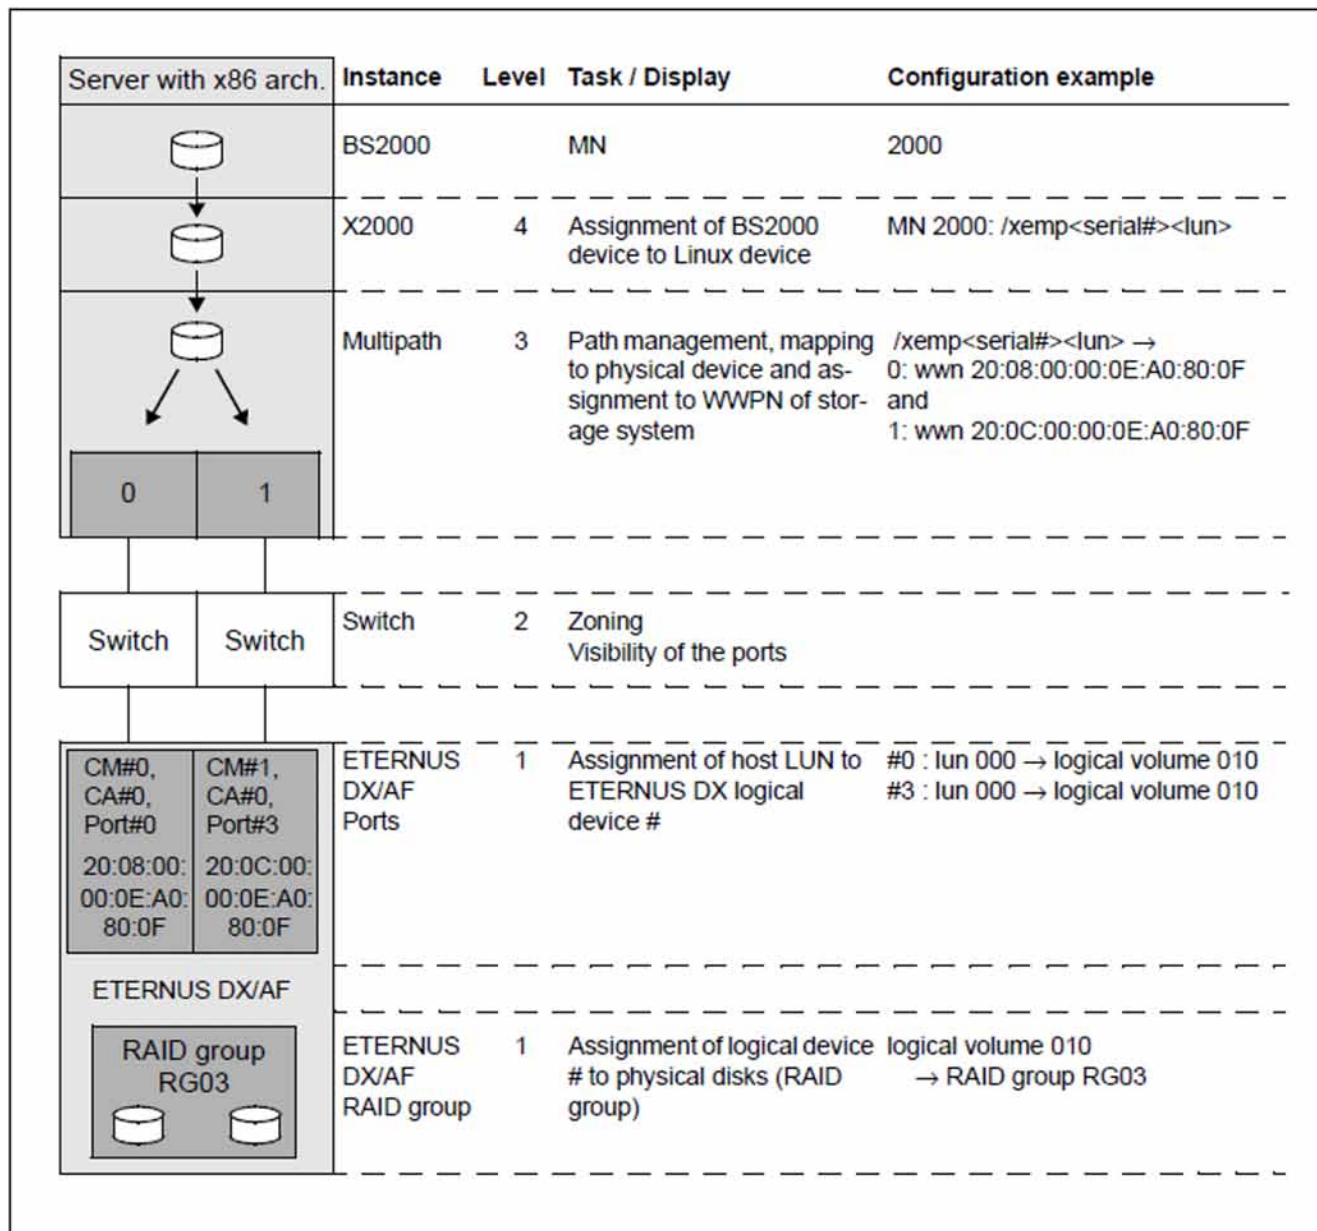

Figure 5: Configuration of the units on x86 servers for ETERNUS DX/AF
BS2000 volumes which are connected to an x86 server are mapped to the configured Linux volumes. These are operated using one or more Fibre Channel HBAs (Host Bus Adapters). The Linux volumes are connected to the storage system directly or via a Fibre Channel switch. BS2000 volumes connected to x86 servers via Fibre Channel must be configured on storage system (1), switch (2) and X2000 (4) levels (the level numbers as used in figure 5 in "Settings for x86 servers" are in parentheses). No special configuration is necessary at Linux level (3).